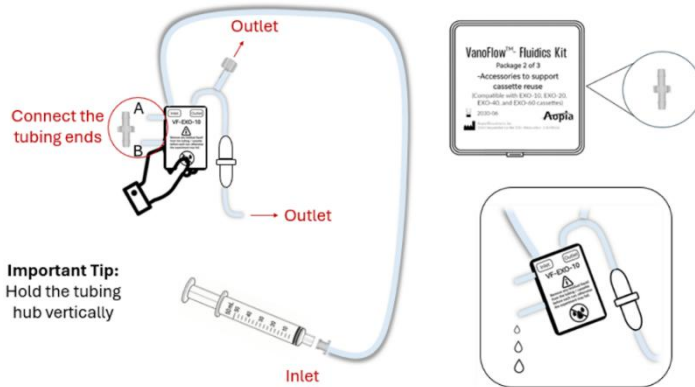

Figure 4 - Cassette inlet/outlet tubing assembly cleaning
- **B. Tubing Hub:** Clean the **Tubing Hub** (Cassette Inlet/Outlet Tubing Assembly) according to Figure 4.